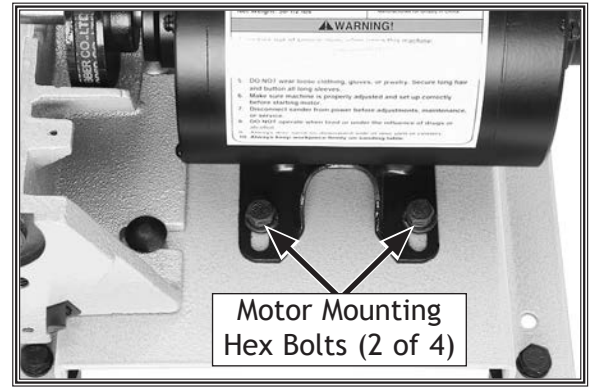

Figure 7. Motor mounting hex bolts (2 of 4, viewed from top).
1. Loosen (4) motor mount hex bolts (see **Figure 7**) to adjust motor position in following steps.